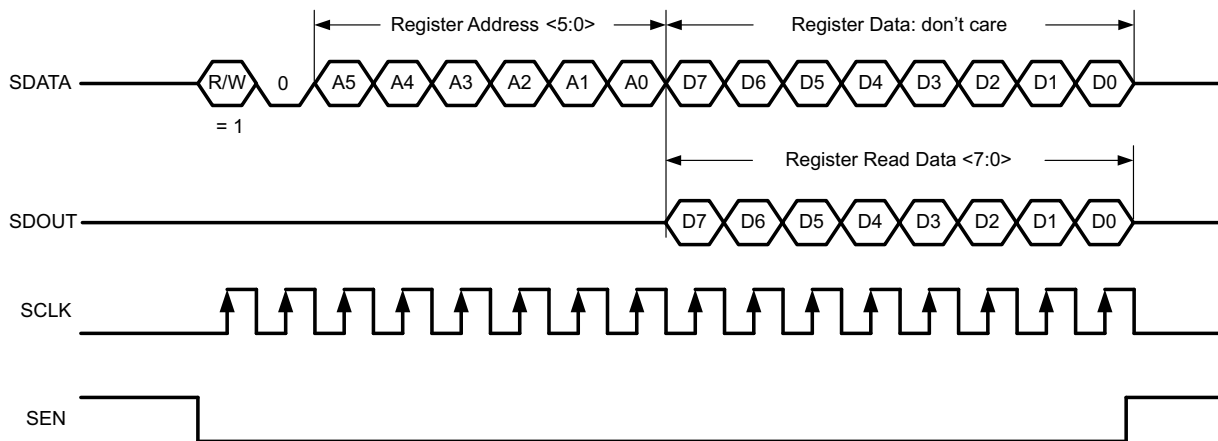
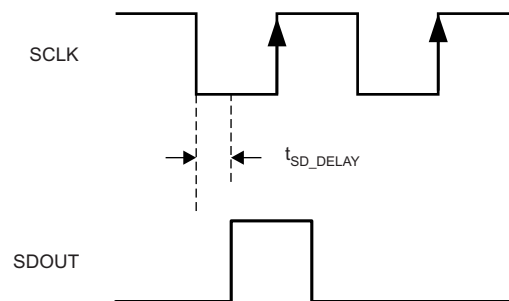

Figure 51. Serial Register Readout Timing Diagram
Figure 52. SDOUT Timing Diagram
2. Write the register address on bits A5 through A0 whose contents must be read. See Figure 51.
When serial registers are enabled for writing (when bit A7 of the 8-bit address bus is '0'), the SDOUT pin is in a high-impedance mode. If serial readout is not used, the SDOUT pin must float. Figure 51 shows a timing diagram of this readout mode. SDOUT comes out at the SCLK falling edge with an approximate delay (t_{SD_DELAY}) of 20 ns, as shown in Figure 52.